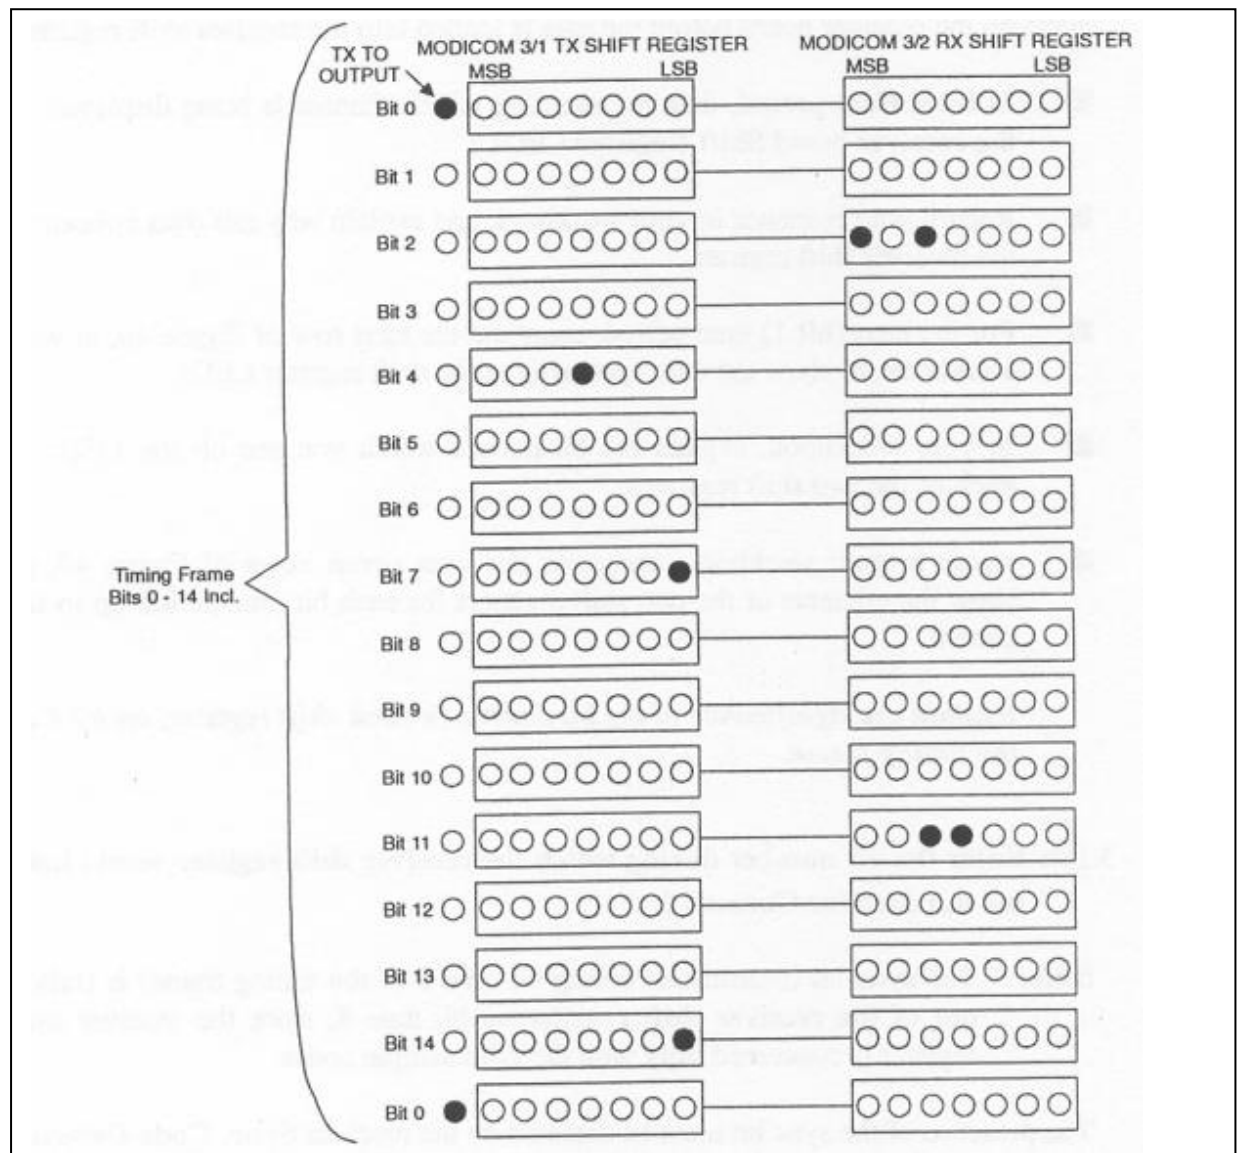

Figure 12: Relative Operations of Transmitter and Receiver Shift Registers
11. In your report, complete the top row of Figure 12 to show the status of both the transmitter and receiver shift register LEDs when bit 0 time period occurs. If an LED is lit, shade in that particular LED on the diagram.
12. For the next (bit 1) time period, complete the next row of Figure 12, in your report, to show the data appearing at the shift register LEDs.
14. Again in your report, complete the next seven rows of Figure 12, to show the contents of the two shift registers for each bit time period up to bit time 8.
15. In your report complete the next row of Figure 12, to show the data in the shift registers for bit 9 of the timing frame.